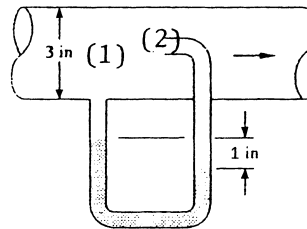

Fig. P3.157
3.157 The manometer fluid in Fig. P3.157 is mercury. Estimate the volume flow in the tube if the flowing fluid is (a) gasoline and (b) nitrogen, at 20°C and 1 atm.